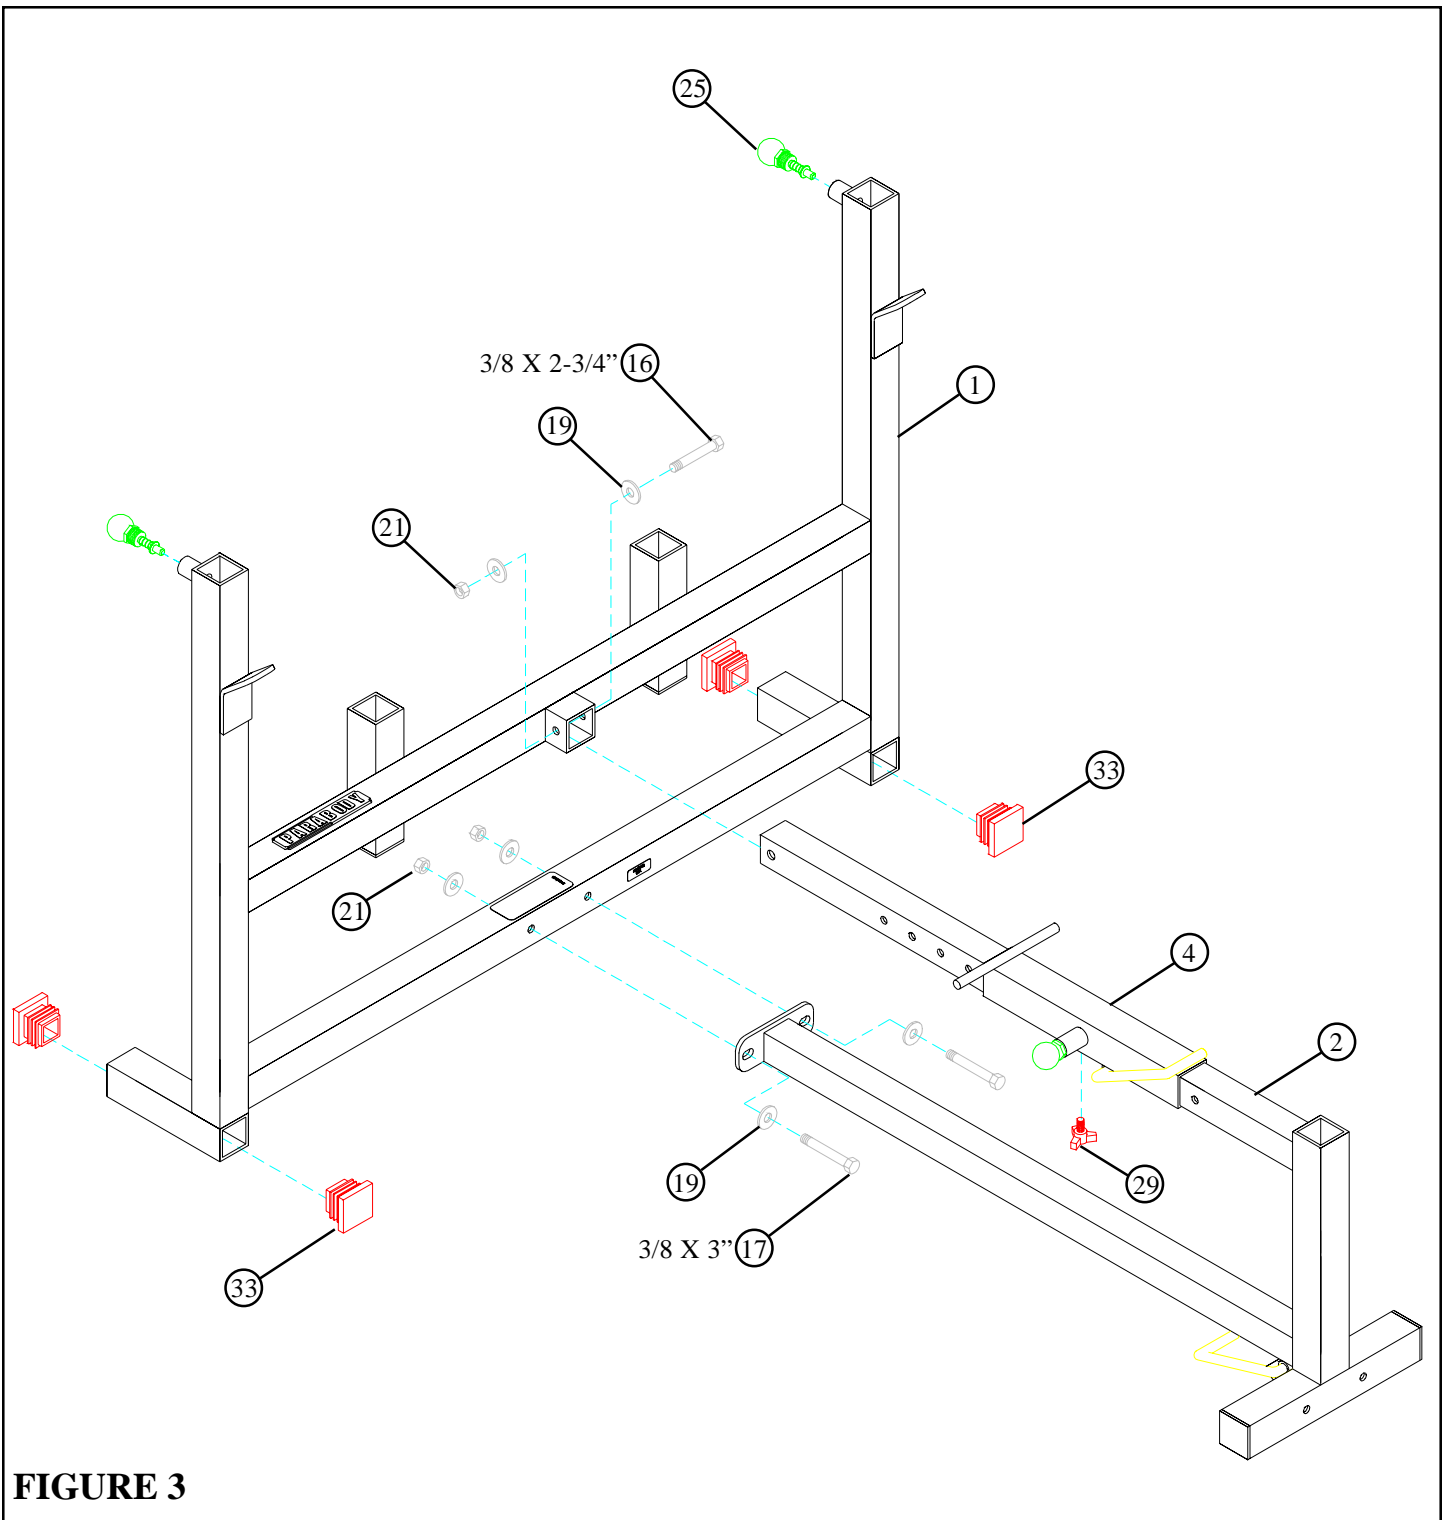

FIGURE 3
- Insert four 2" SQ. END CAPS (33) into the BASE TUBES of the UPRIGHT FRAME (1) as shown in FIGURE 3.
- **SECURELY** assemble the BENCH FRAME (2) to the UPRIGHT FRAME (1) using two 3/8 X 3" BOLTS (17), one 3/8 X 2-3/4" BOLT (16), six 3/8" WASHERS (19), and three 3/8" LOCK NUTS (21) as shown in FIGURE 3.
- **SECURELY** assemble two 3/8" SPRING PIN ASSEMBLIES (25) to the SPRING PIN HOUSING on the UPRIGHT FRAME (1) as shown in FIGURE 3. (NOTE: !!!IMPORTANT!!! Tighten the nut of the SPRING PIN ASSEMBLY SECURELY!)
- Secure the WOLFF SLEEVE (4) in place with one THUMBSCREW (29).